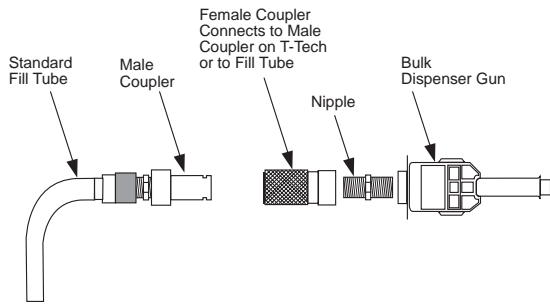

Figure 47. Use A Bulk Dispenser Gun
To use this method, a bulk dispenser gun (see Figure 47) accessory kit must be used. The accessory kit is an optional kit not supplied with the T-TECH. The bulk dispenser gun accessory kit must be ordered separately (see *Replacement Parts List*).
6. Attach the proper fittings to the bulk dispenser gun (Figure 47) and connect the bulk dispenser gun to the CYLINDER FILLING port on the T-TECH.